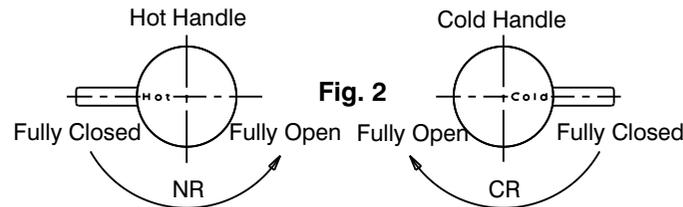

Fig. 2
- 1) Check that threaded nipple (2) is the correct length, as shown. Cut to length if required ensuring end face is square. Apply thread tape to the thread.
- 2) Place the cover plate (1) over the threaded nipple (2). Screw the tap body (3) onto the threaded nipple (2) and position as required. DO NOT OVERTIGHTEN.
- i) With cartridge spindles in the fully closed position, fit handle insert (6) onto spindle (5) and using the retaining screw (9) as a guide when fitted to handle (8), position handles (8) as shown in Fig.2 before pushing handle (8) fully onto handle insert (6). For small adjustments to handle positions, cartridge can be rotated **slightly** in an anti-clockwise direction until handles are aligned (Fig.2) before tightening locknut (4). Remove handles (8).
- ii) Secure handle insert (6) to spindle (5) using screw (7).
- iii) Position each handle (8) on handle insert (6) as before then push it firmly down until it bottoms internally.
- iv) Tighten retaining screw (9) with allen key (10) provided. Slide 'O'ring (11) onto screw (9). Screw handle lever (12) onto retaining screw (9) and tighten firmly by hand, taking care not to damage the decorative finish.